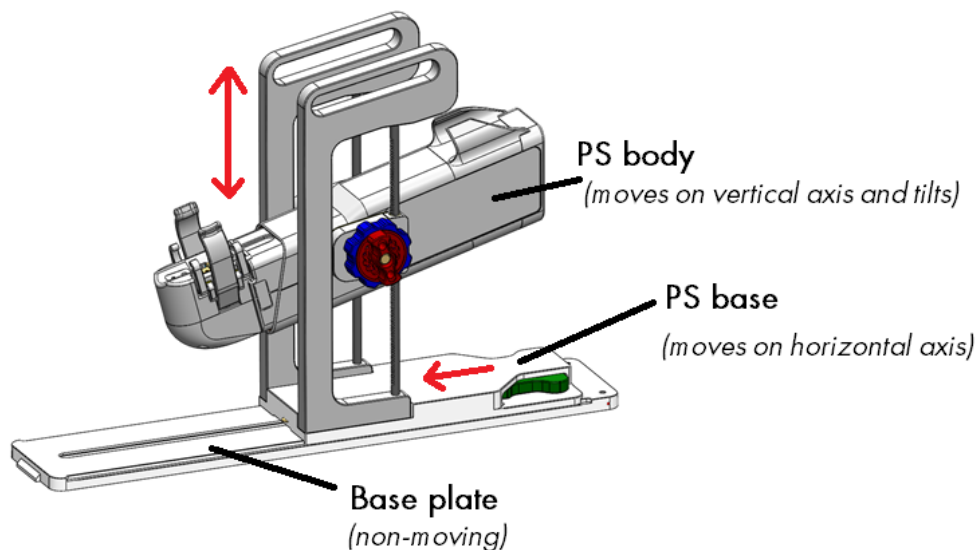

Figure 22: Adjusting the Positioning System
3. **MRI Technologist:** Manually move the PS into position so that the UA gripper aligns with the natural angle of the UA in the patient. Manually adjust the base of the PS forward and backward and up and down, and tilt the linear axis of the PS up and down (Figure 22).
NOTE: The PS adjustment knobs and levers are not coloured as in Figure 22, but are coloured here to help with these instructions.